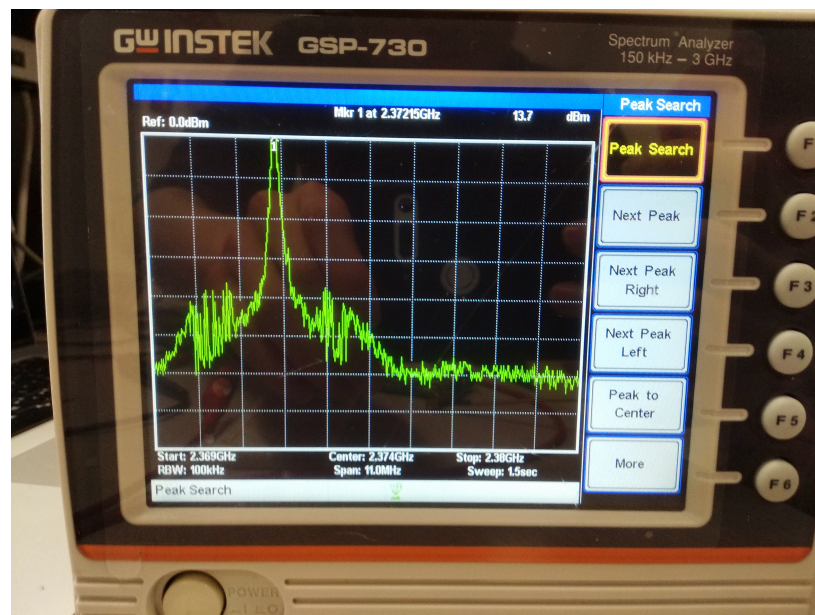

Fig. 3. Transmitted Spectrum when Vtune is 5V
**RF band circuit:** First step is to verify the transmitter part, which includes voltage-controlled oscillator (VCO), attenuator, low noise amplifier (LNA) and splitter. Based on our power budget calculation, we are expecting to get a power of 15dBm ideally at the antenna. Power on the RF circuit, set the Vtune to 5V, we are able to get 13.7dBm power (excluding the loss of SMA cable) measured by spectrum analyzer shown in Fig. 3. Thus, it's reasonable to say that the transmitter is working properly. Also, VCO needs to be tested to get the actual sensitivity for accurate distance calculation in signal processing.